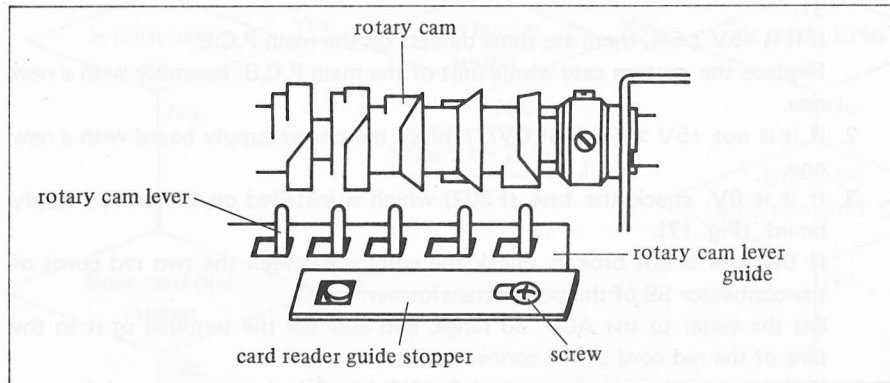

Fig. 13
7. Loosen the card reader guide stopper screw and slide the card reader guide stopper to left until the rotary cam levers touch softly to the right side of the window of the rotary cam lever guide. (Fig. 13).